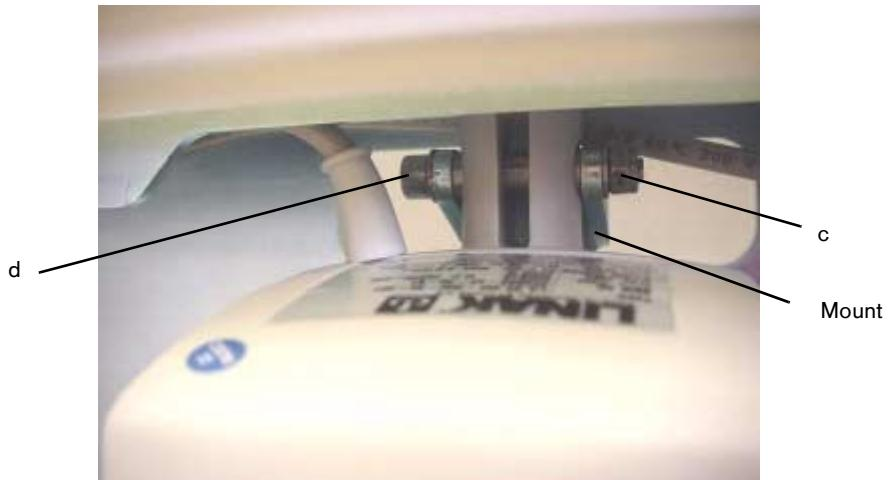

Fig.356 Upper attachment of height adjustment
23. Mount new motor of height adjustment using screw, washers, and nut, see Fig. 356.